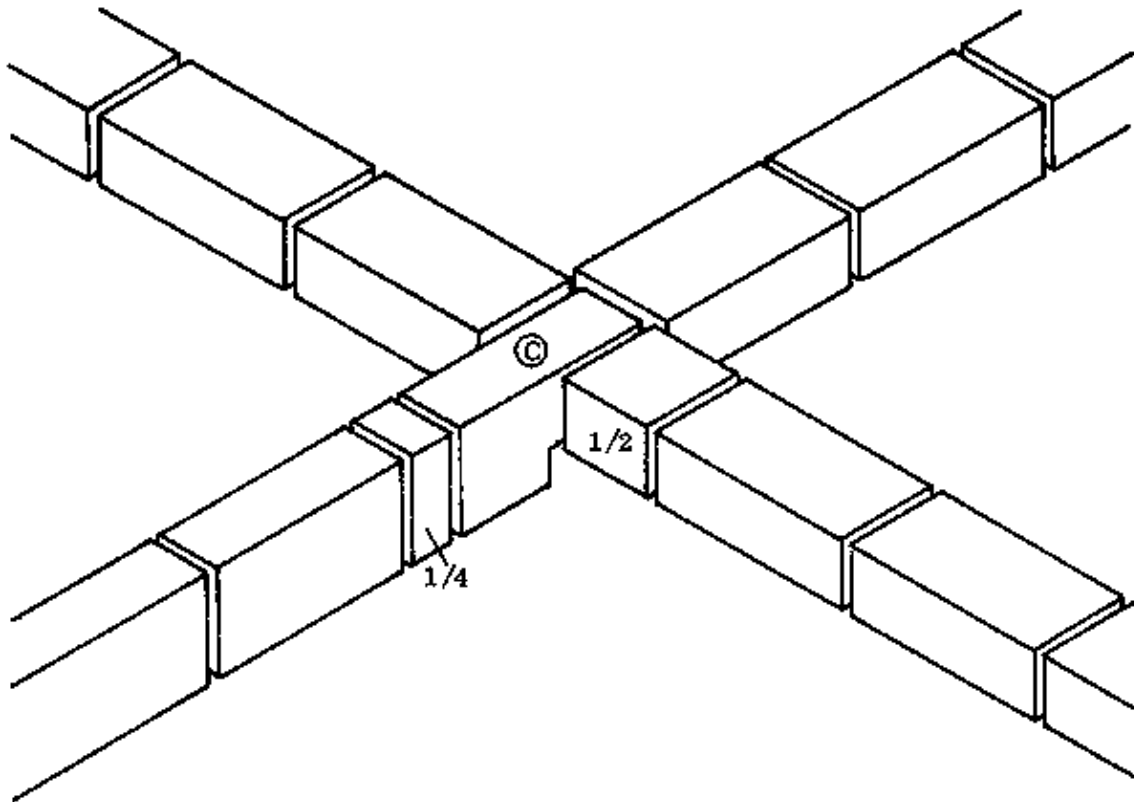

Fig. 1a 1st COURSE
– COMMON BLOCKS: The first course of the thin wall is bonded into the thick one by a 3/4 block (block A) which must be shaped in such a way that the second course of the thick wall can overlap it (block B). Block A is followed on one of its stretcher sides by a 1/2 block, while all other directions are continued with full blocks (Fig. 1a shows the first courses).